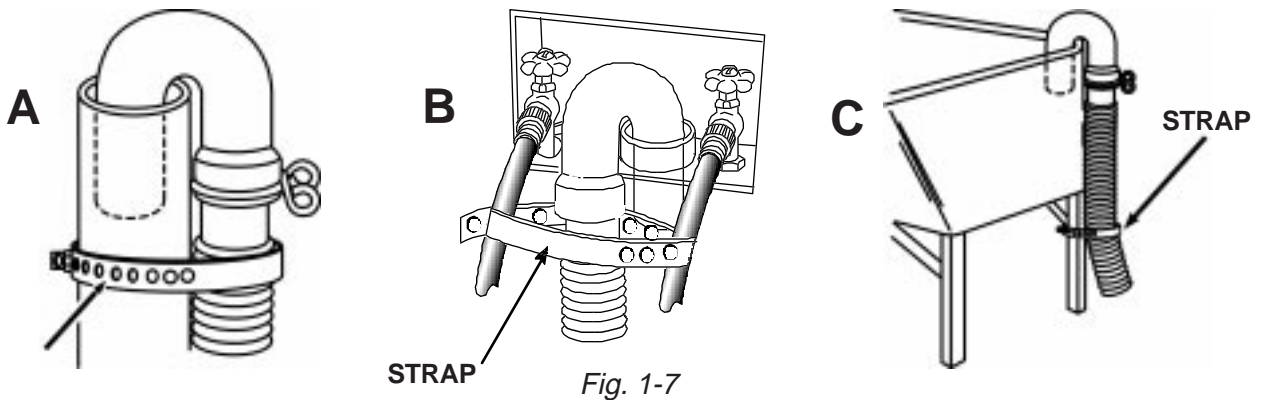

Fig. 1-7
7. The hook-end of the drain hose can be installed into a stand pipe (Fig. 1-7, A&B) or laundry tub, (Fig. 1-7, C) and secured with the shipping strap as shown.